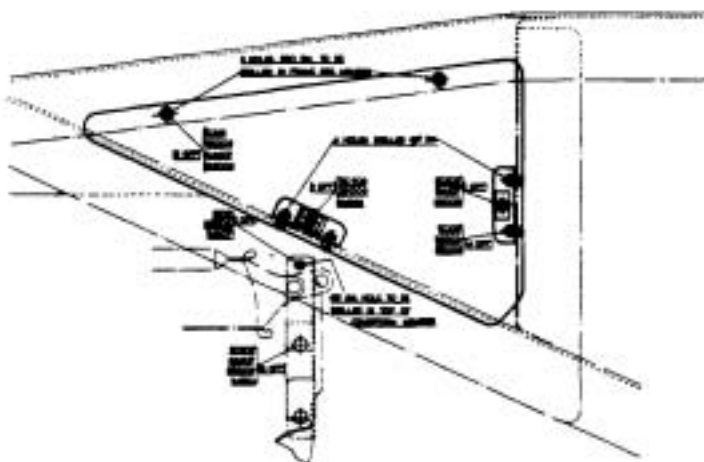

FIG. 1. FITTING OF UNDERSHIELD.
bolt holes in the lower flange of the frame side member, also for the two supporting brackets as shown in Fig.1. Drill the two 0.250" dia. bolt holes in the frame side member.
7. Offer up the baffle plate with its flanges towards the engine, forward of the servo unit, and mate the head of the leading rivet securing the spring clip to the top of the cruciform with the radiused slot cut in the top flange of the plate. Mark off the relative position for the 2-BA bolt hole in the top of the cruciform as shown in Fig.1. Drill accordingly.